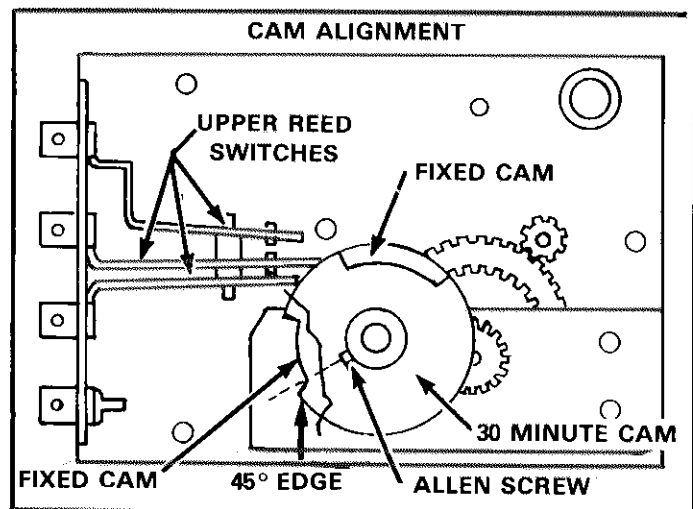

FIGURE 4
- 6 - Align the allen screw on the 30 min. cam with the 45° edge of the fixed cam as shown in figure 4 and tighten allen screw.